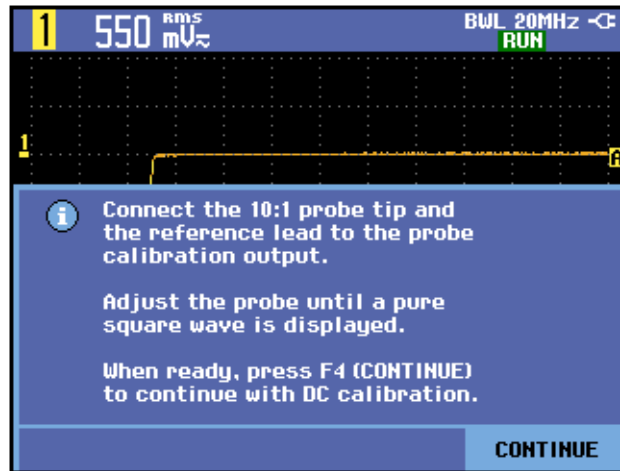

Figure 2: Rising edge of square wave
9. You will see the rising edge of a square wave on the display (approximately 500 Hz). This is the signal used to calibrate the probe. (See Figure 2.) (See page 103, *Probe Compensation and Compatible Maximum Voltages*.)